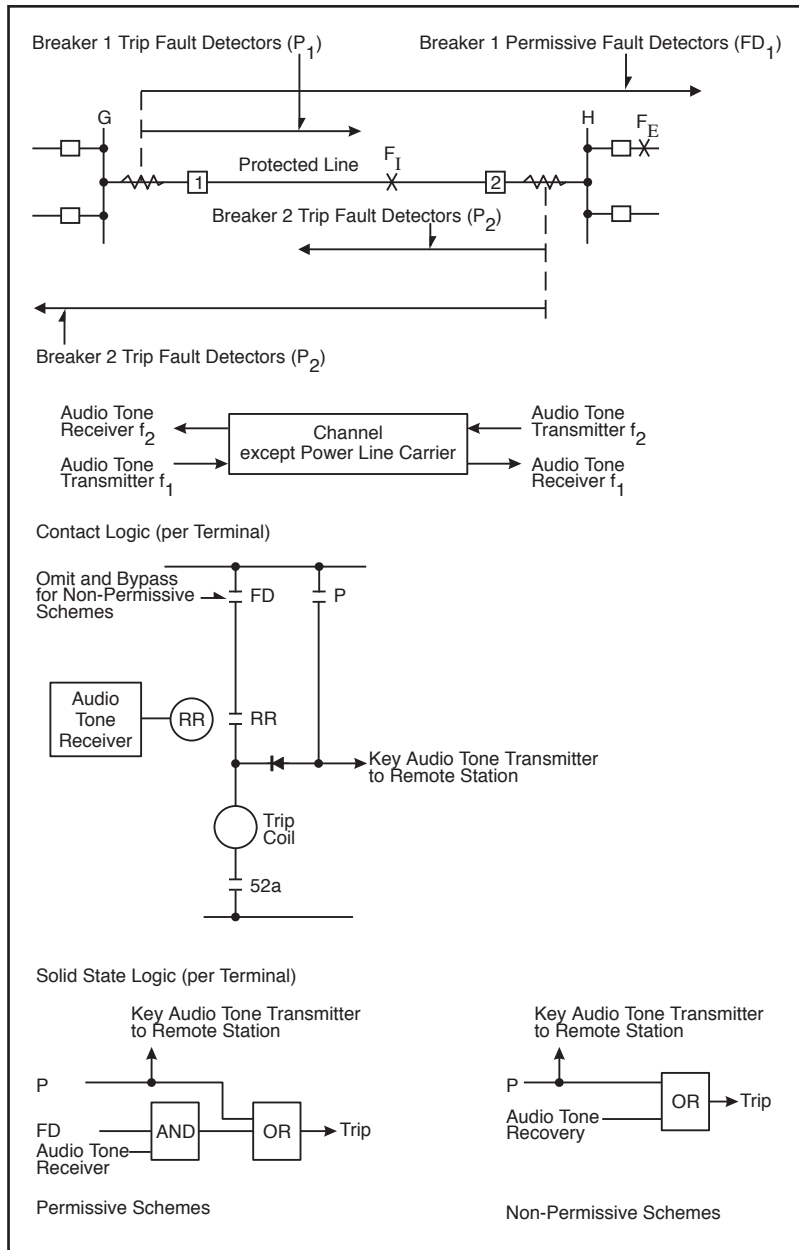

Figure 2-4. Basic Logic Diagrams for Underreaching Transfer Trip Systems.
For overreaching systems, the directional phase and ground trip fault detectors (P) must be set to overlap within the transmission line and not overreach any terminals (see Figure 2-4).
which would cause incorrect tripping. If a non-permissive system is used, the channel considerations should be as described later for direct trip systems. The system is made permissive by the additional set of phase and ground overreaching fault detectors (FD), which must operate for all internal faults (see Figure 2-4).
Operation of the underreaching transfer trip scheme shown in Figure 2-4 is described in Table 2-2 for external and internal faults. Because the trip fault detectors (P) do not operate for external faults, underreaching transfer trip systems do not require external